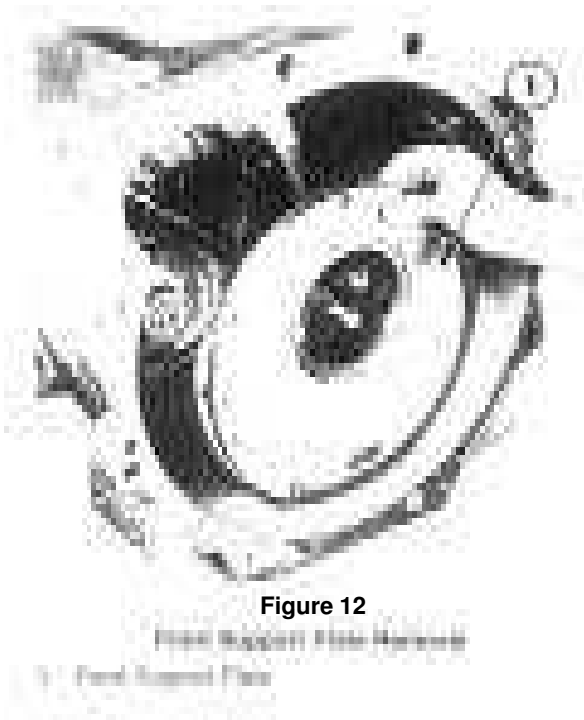

Figure 12
6. Remove the retaining bolts and withdraw the front support plate and gasket, Figure 12.